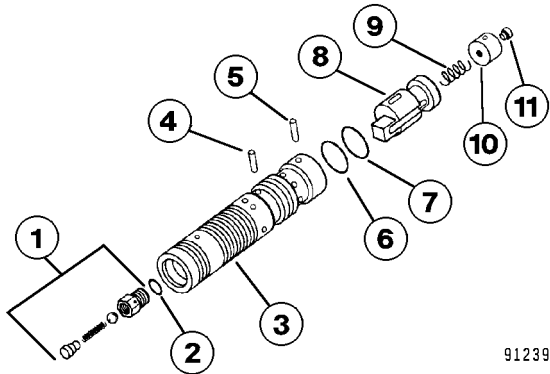

FIGURE 6-5. AMPLIFIER SPOOL ASSEMBLY
2. Remove relief valve plug (20) and seal (5). Use an 8 mm hex allen head wrench to remove relief valve assembly (19). Remove steel seal (6).
3. Use a 13 mm hex head allen wrench to remove screw (11) and lockwasher (12) from end cover (15). Use a 13 mm hex head allen wrench to remove screws (13) and lockwashers (14). Remove end cover (15).
4. Remove spring stop (22) and spring (30). Remove spring stop (23) and springs (28) and (29). Remove O-rings (1) and (2) from end cover (15).
5. Remove spring control (24) and main spool (37). Remove priority valve spool (41). Remove spring control (24), springs (28) and (29), and spring stop (23) from housing (40).
6. Remove amplifier spool assembly (25) and set it aside for further disassembly, if required (see Figure 6-5).
7. Remove shock and suction valve (21) and set it aside for further disassembly, if required.
8. Use a 13 mm hex head allen wrench to remove screw (11) and lockwasher (12) from end cover (16). Use a 13 mm hex head allen wrench to remove screws (13) and lockwashers (14). Remove end cover (16).
9. Remove O-rings (1), (2) and (3). Remove spring (17).
10. Remove shock and suction valve (42) and set it aside for further disassembly, if required.
11. Remove orifice screw (27), orifice screw (33), and check valve (34).
**NOTE:** Disassembly of the amplifier spool assembly is only necessary if O-ring (2, Figure 6-5), spring (9) or orifice plug (11) require replacement. Otherwise, replace the amplifier spool assembly as a complete unit. Refer to Steps 12 and 13.
12. Remove retaining ring (7, Figure 6-5), remove pin (5). Remove plug (10) and spring (9). Remove retaining ring (6) and pin (4) and remove inner spool (8).
13. Unscrew check valve (1) and remove. Remove O-ring (2). Remove orifice screw (11) from plug (10).